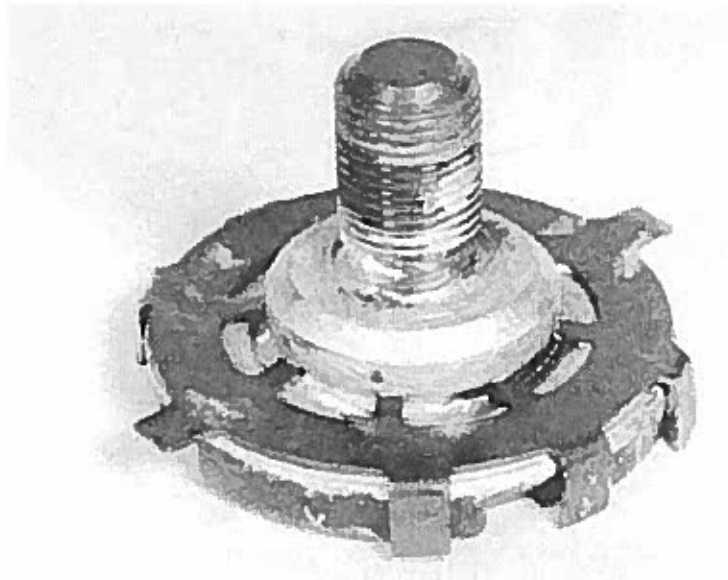

Figure 6
8. Apply never-seize compound in the threads of the sector shaft, the new retainer, and on both sides of the friction washer (Figure 6).